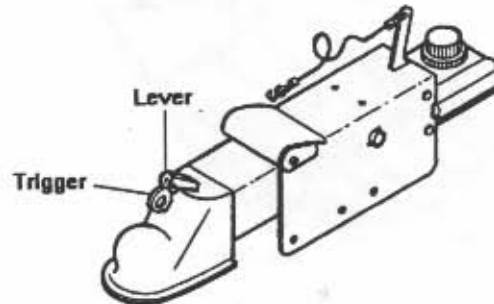

Figure P4: Surge Brake Actuator & Coupling Assembly
Brakes are available on all trailers manufactured by Four Winns, Inc. Surge brakes operate automatically when the tow vehicle's brakes are applied. When the tow vehicle slows down or stops, the forward momentum or "surge" of the trailer against the hitch ball applies pressure to a master cylinder in the trailer coupler. This pressure activates the trailer brakes through the brake's hydraulic system. See Figures P4.
2. Hold release handle in open position. See Figure P4.